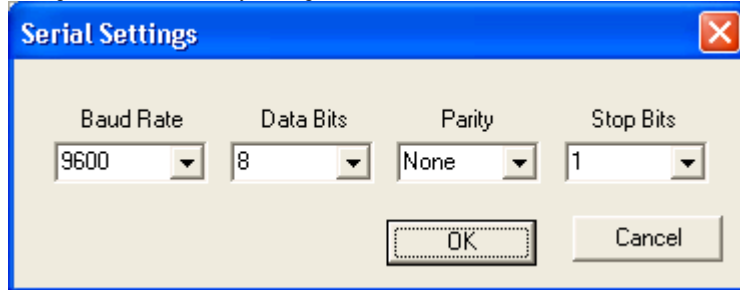

Figure 5
9. **Configuration.** Click  on the toolbar. A window, as Figure 5, will pop up. Select the required serial settings and click **Ok** to save the new settings. The serial information on the toolbar will also reflect the new settings. Click **Cancel** to exit